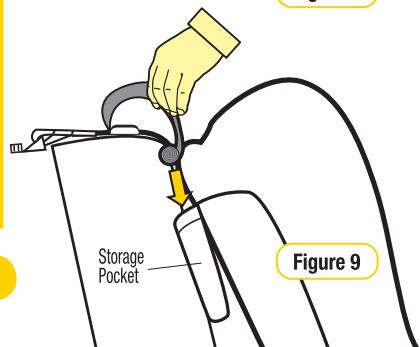

Figure 9
- Step 7:** Store any excess webbing from the top tether strap, in the storage pocket provided on the restraint (refer Figure 9).
After correctly installing the restraint in your car, roll up and place any excess tether strap in the storage pocket provided (refer Figure 9).